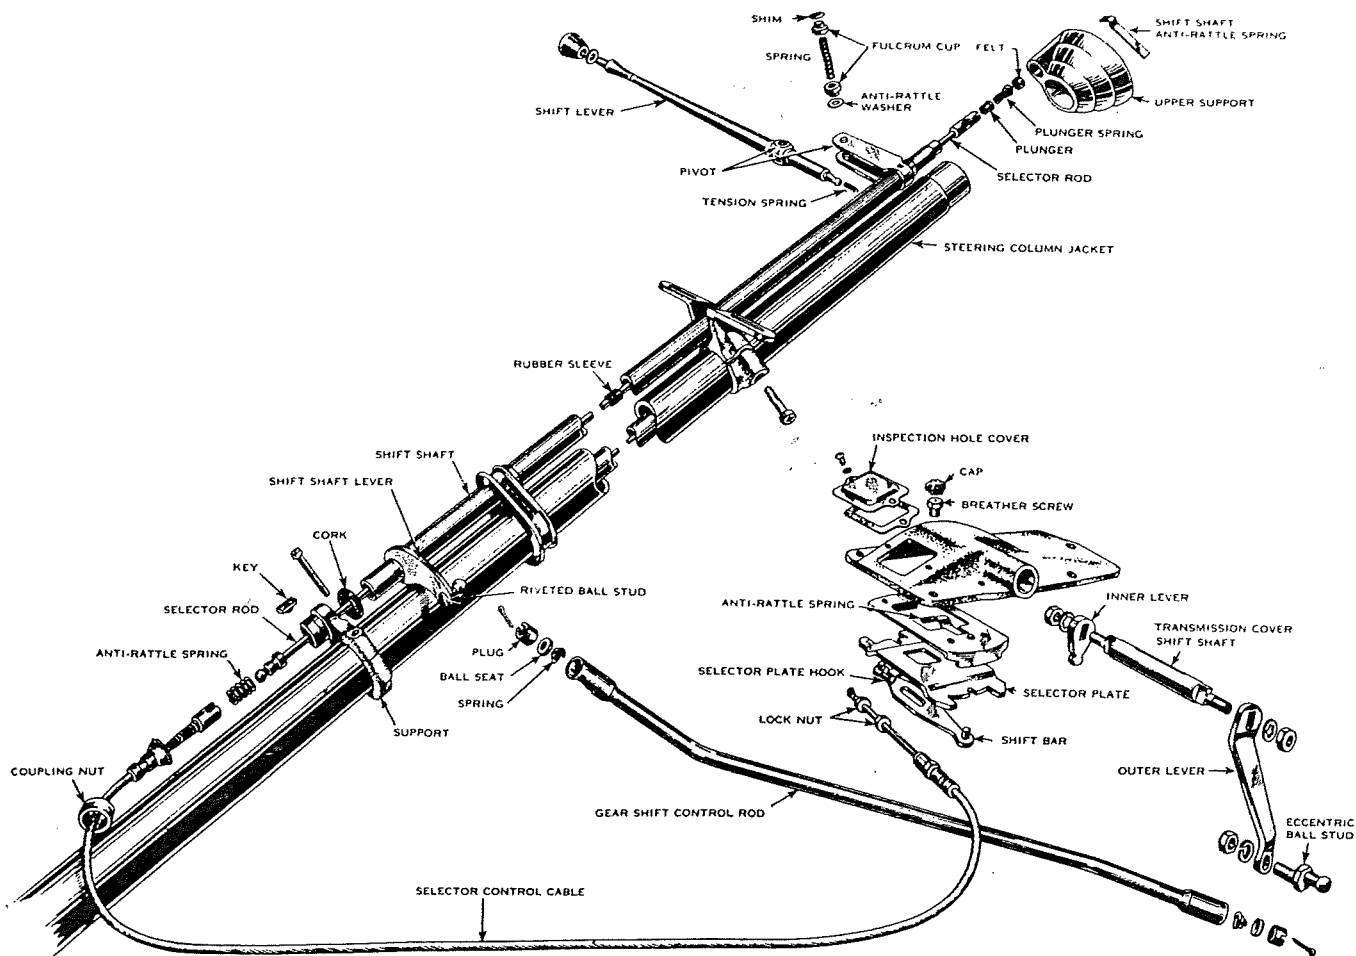
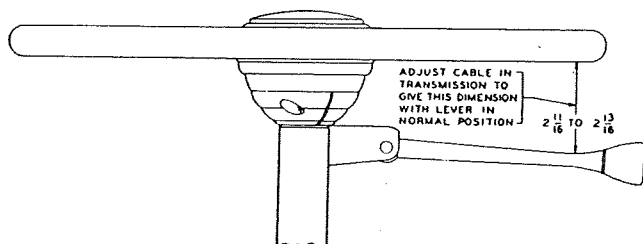

Fig. 32—Pontiac 1938
Fig. 36—Pontiac 1938. Gearshift Lever Adjustment
1938: (See Fig. 32.) To maintain the position of the hand control lever, two adjustments are provided, namely: selector position and engagement position. To adjust the selector position: (1)—Set the hand control lever and transmission gears in neutral. (2)—Take out the front floor center plate. (3)—Remove the inspection hole cover from the transmission cover. (4)—There are two lock nuts at the end of the selector cable where it is attached to a hook on the selector plate inside the transmission case. Turn the lock nuts in the desired direction until the distance between the hand control lever and the rim of the steering wheel is as shown in Fig. 36. NOTE—Turning the nuts toward the end of the control cable increases the distance. (5)—Tighten the lock nuts securely and replace the inspection hole cover and center floor plate.